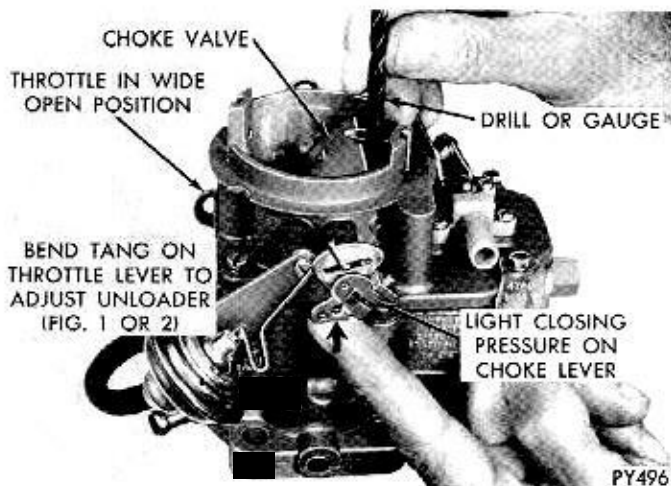

Fig. 17—Checking Choke Unloader Setting
(1) Hold throttle valves in wide open position. Insert specified drill (see Specifications) between upper edge of choke valve and inner wall of air horn.
(2) With a finger lightly pressing against valve, a slight drag should be felt as drill is being withdrawn. If an adjustment is necessary, bend unloader tang on throttle lever until correct opening has been obtained. (Fig. 17).